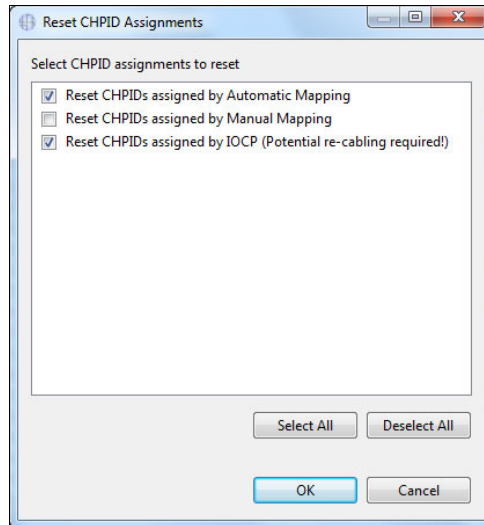

Figure 7-41 CMT - Reset CHPID Assignments
2. The Reset CHPID Assignments window opens with Reset choices (Figure 7-41 on page 388). For the example, select the following two options and then click **OK**: